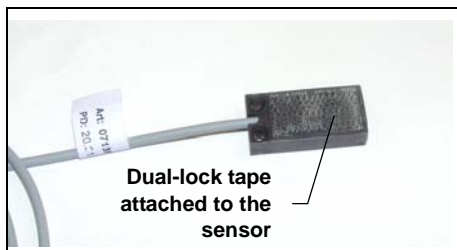

Figure F-2. Sensor with Dual-Lock Tape
2. Remove the paper backing from a piece of dual-lock tape and press the tape onto the sensor where the label was removed (see Figure F-2).